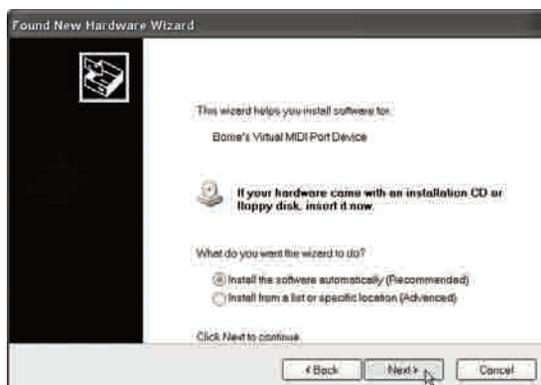

Figure 5.8
8. Select *Install the software automatically* and click **Next**. (Figure 5.8)